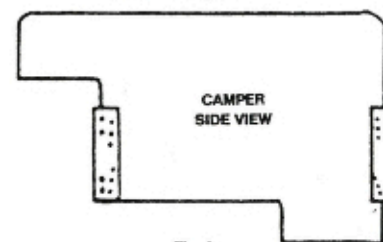

Fig. 1
1. Assemble the 2 Pc. bracket together using the 3/8" bolts and the push nuts furnished. Use this as a template to mark each corner. Mount the brackets on the four outside corners, starting with the two front brackets. Mount the top of the rear brackets at the same height as the front brackets. (see Fig. 1)